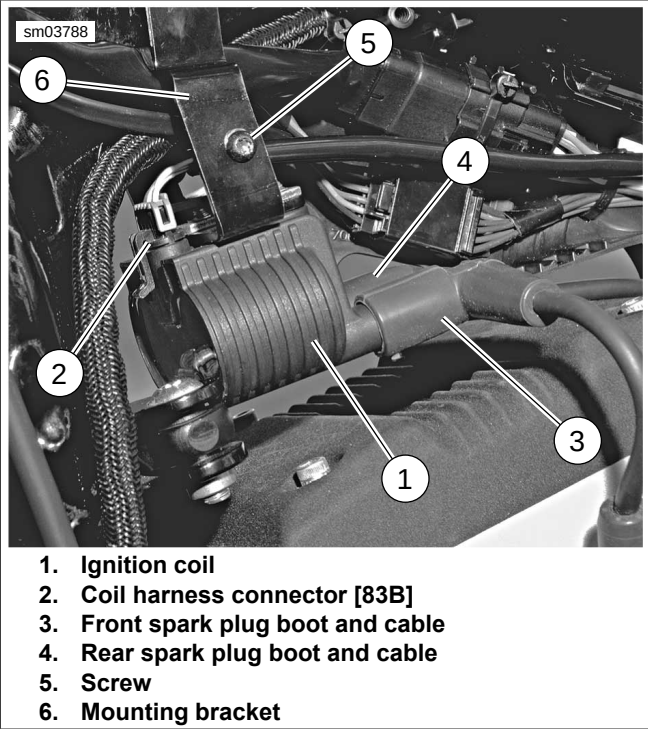
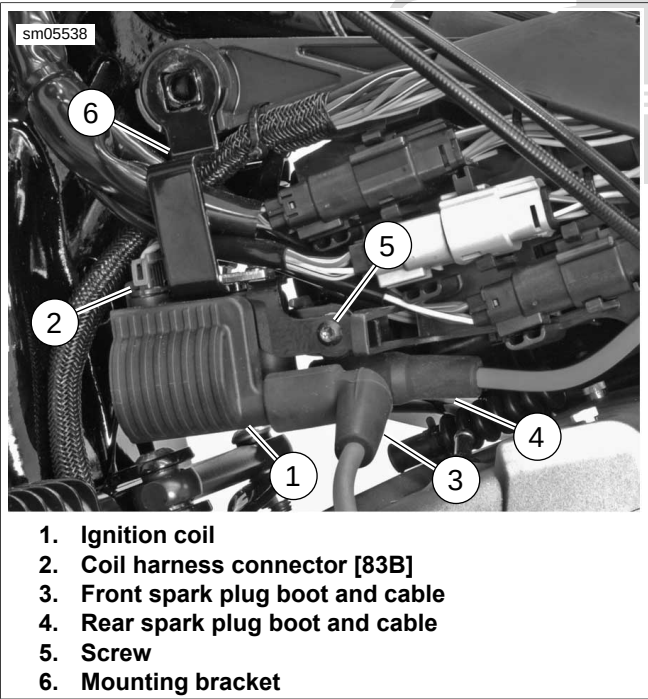
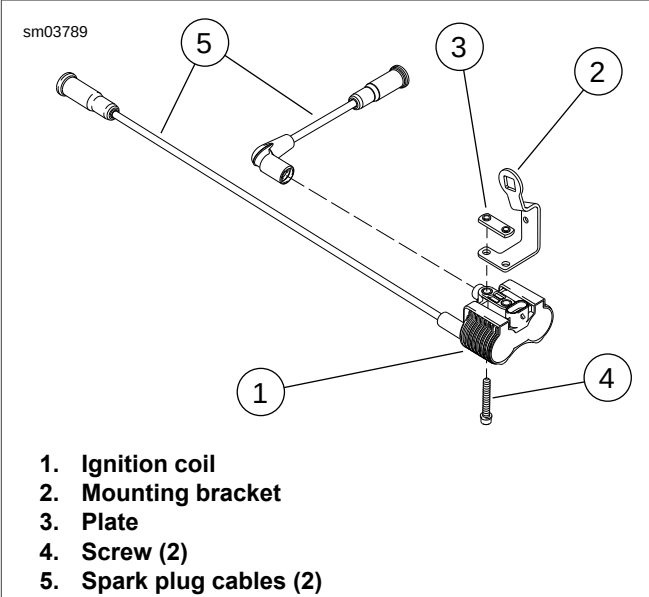
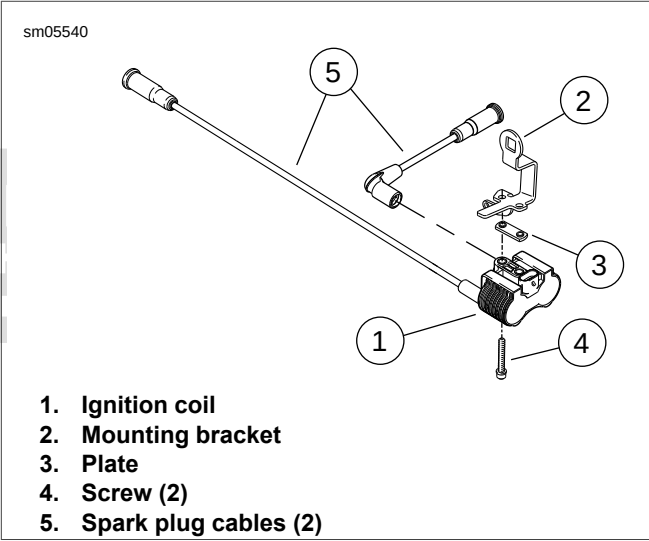

Figure 6-31. Ignition Coil Mounting and Connections: XL Models Only
Figure 6-32. Ignition Coil Mounting and Connections: XR 1200X
Figure 6-33. Ignition Coil Mounting: XL Models Only
Figure 6-34. Ignition coil Mounting: XR 1200X
6. See Figure 6-31 or Figure 6-32. Unplug coil harness connector [83B] (2) from ignition coil (1).
7. Pull front spark plug boot and cable (3) from left ignition coil tower.
8. Pull rear spark plug boot and cable (4) from right ignition coil tower.
9. Remove screw (5) securing coil bracket (6). Remove coil and bracket from vehicle.
10. See Figure 6-33 or Figure 6-34. Remove two screws (4) to separate ignition coil (1) from mounting bracket (2) and plate (3).
1. **XL Models:** See Figure 6-33. Position **new** ignition coil (1) on underside of mounting bracket (2). Fasten coil to mounting bracket with two screws (4) and nut plate (3). Tighten to 24-72 in-lbs (2.7-8.1 Nm).
2. **XR 1200X:** See Figure 6-34. Position plate (3) over **new** ignition coil (1). Place screws (4) through coil and plate and secure to mounting bracket (2). Tighten to 24-72 in-lbs (2.7-8.1 Nm).
3. See Figure 6-31 or Figure 6-32. Install the coil:
- a. Slide coil (1) with mounting bracket (6) into position.
- c. Secure bracket with screw (5). Tighten to 35-45 in-lbs (4.0-5.1 Nm).
4. Plug spark plug cables into ignition coil towers: front spark plug cable (3) to left side of coil, rear spark plug cable (4) to right side of coil.